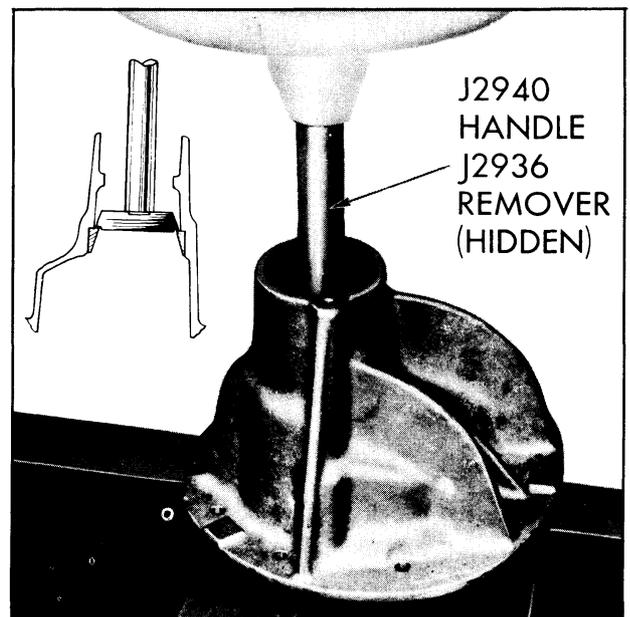

Fig. 6-20 Removing Rear Bearing Outer Race
18. Press rear bearing outer race from carrier using Tool J-2936. (See Fig. 6-20)